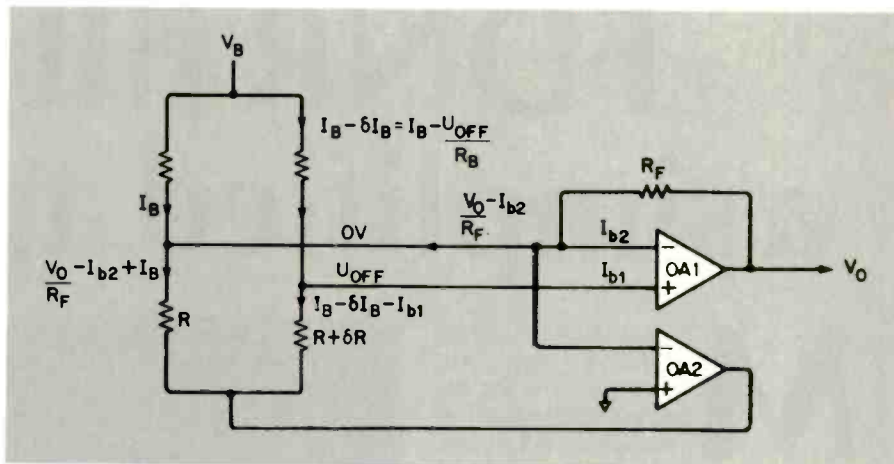

Fig.3. Derivation of errors from op-amp 1 input bias currents and offset
bridge currents are generated without recourse to constant current generators. The bridge voltage will, of course, require accurate definition, and can be generated by a reference zener and resistance to the positive supply. The derivation of errors from op-amp 1 input bias currents and offset, referring to Fig. 3, is as follows.
Figures 3 and 4 provide detailed analysis of errors introduced by op-amp offset and bias parameters.
**Fig. 3. Evolution of a FDNR filter.** Original section is at (a) and (b) shows the FDNR approach. A normalised low-pass filter for the H-P 5420 is seen at (c) and (d) is the active FDNR filter derived from that in (c)
In many applications, the fact that the FDNR is not floating is no problem. Figure 3(a) shows a three-pole, elliptic, low-pass filter operating between source and load impedances  $R_1$  and  $R_2$ , which would normally be equal. In (b), the transformed filter using resistors instead of inductors and FDNRs in place of the capacitors operates between capacitive source and load impedances; the resistors  $R_{c1}$  and  $R_{c2}$  are added purely to define the behaviour at 0Hz, where the reactance of the terminating ca-
At higher frequencies in the pass-band, the same 6dB attenuation occurs, due now to the reactance of the two equal-value source and terminating capacitors. An attenuation of -6dB in the pass-band sounds a bit odd, but this is because we have been considering the input as  $V_1$ , the source EMF. If, as is usually the case, the source resistance  $R_1$  in Fig.3(a) is considered as the internal or matched resistance of the source and the filter input measured at the input to  $L_1$ , instead, the pass-band attenuation is zero, as expected. The final circuit of Fig.3(d) provides greater than 80dB of stop-band attenuation for frequencies above 80kHz.
Returning for the moment to the prototype normalised seven-pole filter of Fig.3(c), one can see that FDNRs are particularly convenient for low-pass, rather than high-pass filters and also how the choice of T-sections rather than  $\pi$ -sections reduces the number of FDNRs by one.
Practical FDNR filter design proceeds much as normal, starting with a design such as that of Fig.3(c), where the values are normalised; that is, are in Henries and Farads, calculated for a cut-off frequency of 0.159Hz ( $1/2\pi$ Hz or 1 rad/s) with a 1 $\Omega$  characteristic resistance source and load. The inductor values in Henries become the resistor values in Ohms and the reciprocal of the capacitor values becomes the value of the supercapacitors, D elements or FDNRs, in minus Ohms. The reciprocal of the characteristic resistance becomes the terminating capacitor value in Farads.
to dividing both L and C values by the desired cut-off frequency when denormalising an LC filter. A suitable multiplying factor is then chosen to bring the R values to a manageable level — say 2.5k $\Omega$  for  $R_1$ , corresponding to  $L_1$  in Fig. 3(a) — and the same multiplying factor applied to the D elements.